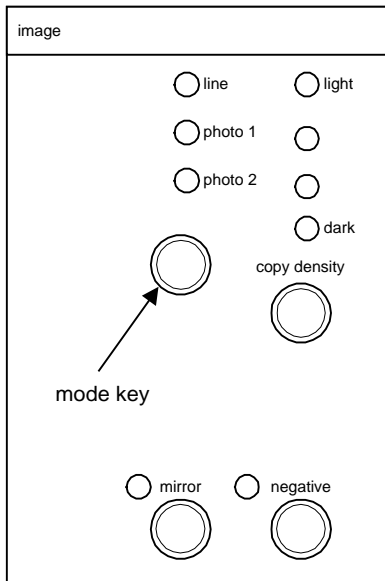

Figure 3. Image Panel
1. Select **Line**, **Photo 1** or **Photo 2** by pressing the mode key on the Image Panel (Figure 3).
2. Select **Light** by pressing the **Copy Density** key on the Image Panel (Figure 3).
2. Select the second LED from the top (next to light) by pressing the **Copy Density** key on the Image Panel (Figure 3).